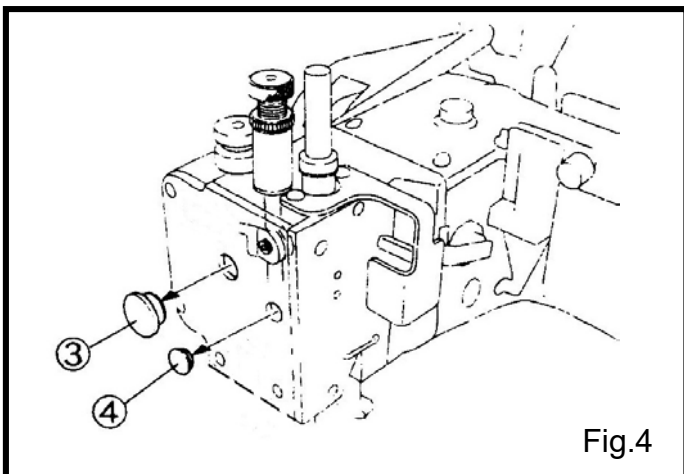

Fig.4
- (1) 移除油塞③④才可以檢查間隙。(Fig.4)
- (1) Remove the seal plugs ③④ to check the clearance.(Fig. 4)